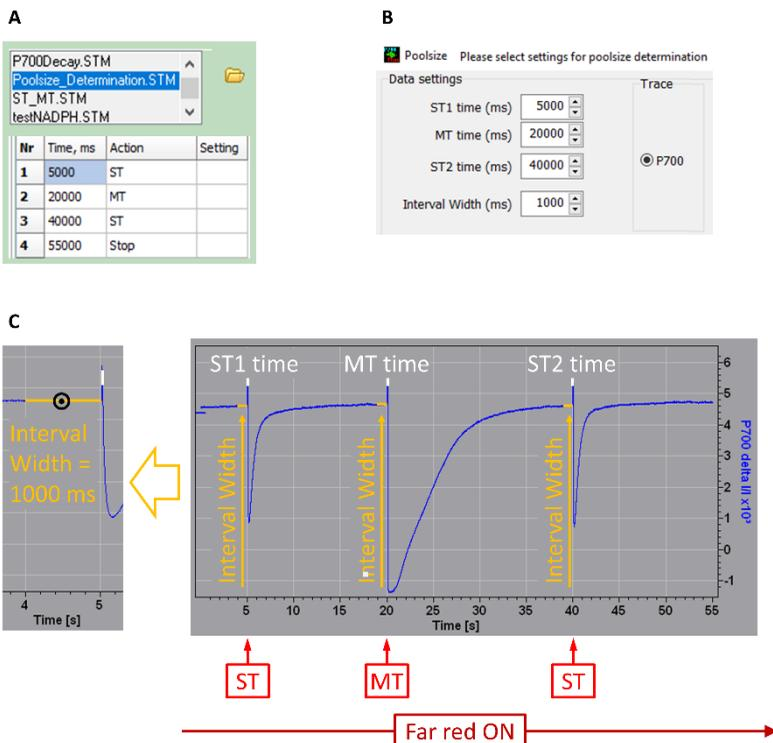

Fig. 62: Electron Pool Size: Terms
- In slow kinetic window, select “Trig. Run” as the operating mode and start experiment. The triggered run executes an ST→MT→ST sequence (Fig. 62).
- In the now appearing Poolsize window, enter the starting time of the ST and MT pulses. Enter “Interval Width” (see Fig. 62).
Inspection at high time resolution of the P700 trace right after the MT (cf. Fig. 62) shows a lag phase of several ms prior to P700 reduction. The lag phase is related to the travel time of electrons from photosystem II to photosystem I. This travel time is studied best using fast kinetics in the mode “Fast Acquisition”.